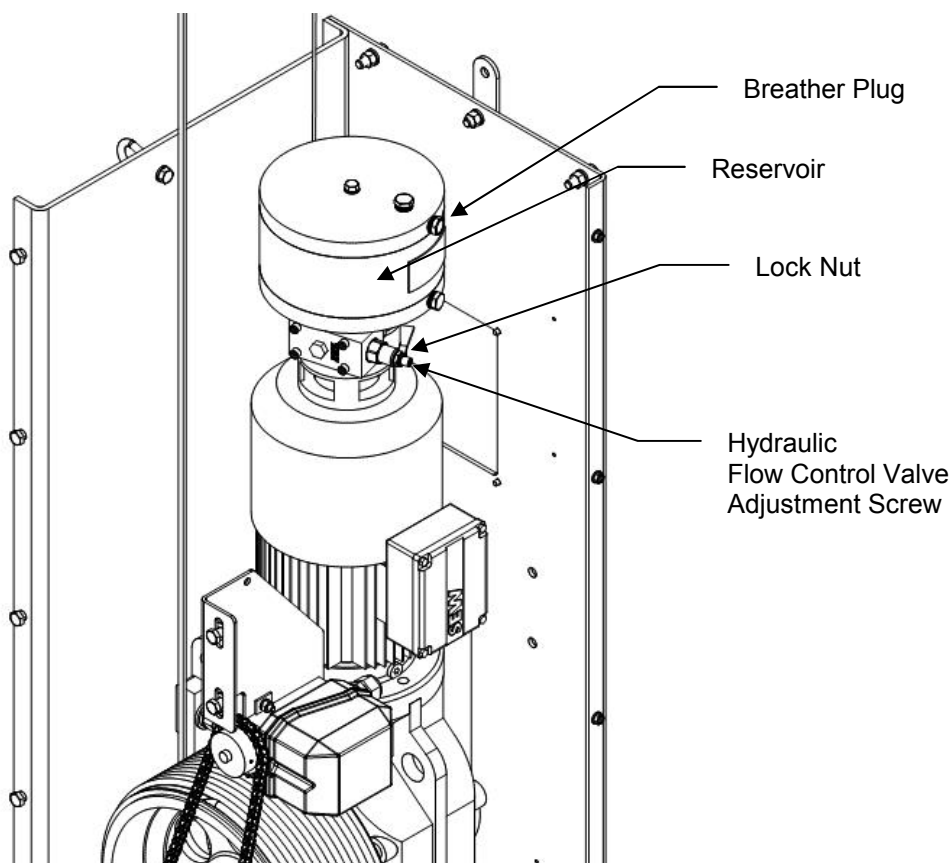

Figure 11 – Hydraulic Dampener Assembly (Covers removed for illustration)
2. The reservoir ships with a solid plug in place of the breather plug to prevent leaks during shipping. Remove shipping plug and replace with supplied breather plug as shown (see Figure 11).
5. Locate the hydraulic flow control valve (Figure 11).